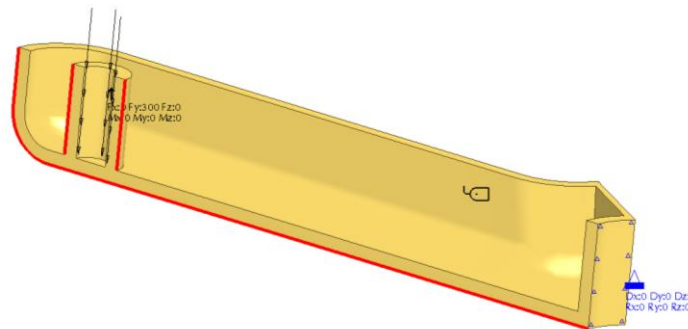

Figure 14 – Edge Constraints
- Choose **Home > Constraints > Symetry Constraint**  and the symmetry constraint dialog will appear. Pick the edges in Figure 14 then **OK** to finish.